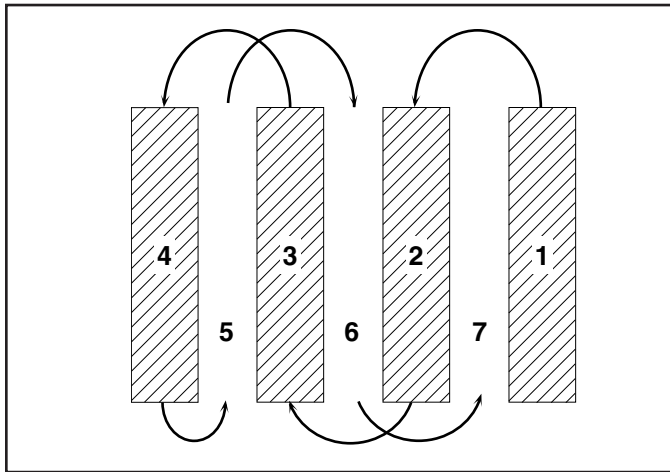

Fig. 14
## TILLING HINTS (See Fig. 14)
- You will find tilling much easier if you leave a row untilled between passes. Then go back between tilled rows. (See Fig. 14) There are two reasons for doing this. First, wide turns are much easier to negotiate than about-faces. Second, the tiller won't be pulling itself, and you, toward the row next to it.